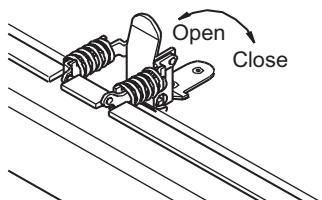

Figure 45 - Opening Door Latches
3. To open glass door, undo latches located on top and bottom of firebox (see Figure 45, page 25). *Note: Use caution when opening these latches. Carefully open door by swinging it to the left. Glass door is mounted to firebox with 5 screws.*